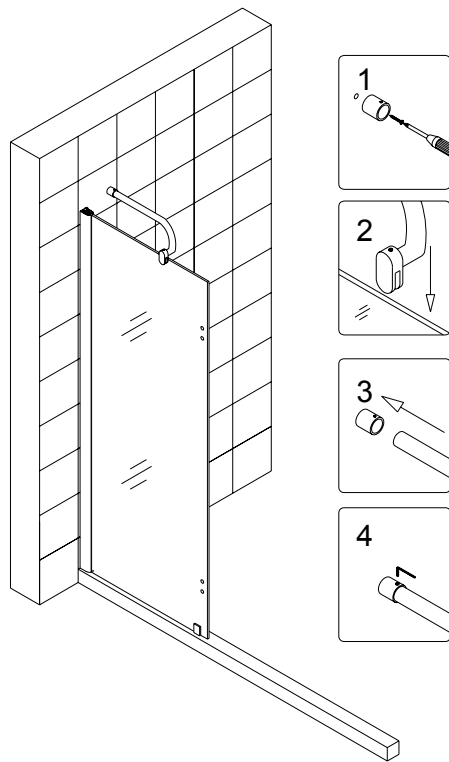

Fig 5
5. Attach the bracket onto the wall with the **Screw ST4.2x30 (10)**. Place the **Support bar (03)** with channel on the glass and insert the other end into the bracket. Tighten the set-screws provided at both ends. See Fig.5 for details.